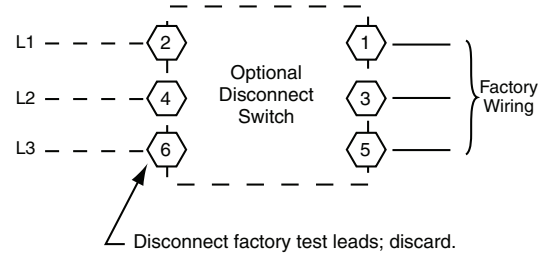

Fig. 23 — Power Wiring Connections
wire size is #2 AWG (copper only). See Fig. 23 and unit label diagram for field power wiring connections.
The factory-installed option non-fused disconnect (NFD) switch is located in a weatherproof enclosure located under the main control box. The manual switch handle and shaft are shipped in the disconnect enclosure. Assemble the shaft and handle to the switch at this point. Discard the factory test leads (see Fig. 23).
All field wiring must comply with NEC and all local codes. Size wire based on MCA (Minimum Circuit Amps) on the unit informative plate. See Fig. 23 and the unit label diagram for power wiring connections to the unit power terminal blocks and equipment ground. Maximum wire size is #2 ga AWG (copper only) per pole on contactors.
2. Install power lines to terminal connections as shown in Fig. 23.